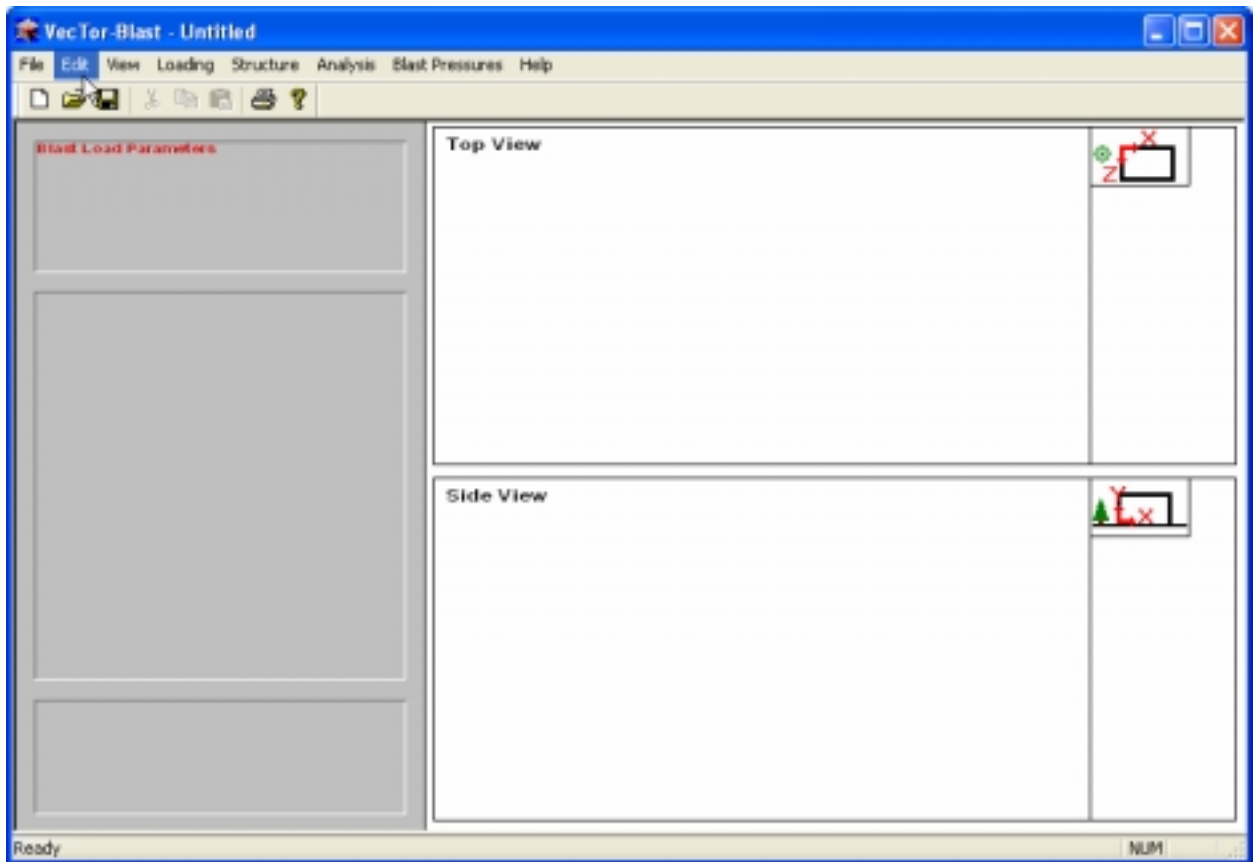

Figure 1 VecTor-Blast Interface.
Upon starting *VecTor-Blast*, an introduction window appears over the view window. The introduction window disappears if you click the mouse, hit a key, or wait a few seconds and the view window remains as shown in Figure 1. *VecTor-Blast* is a single document interface. The exact appearance will vary slightly depending on the operating system.
4. A summary of the entered information will appear in the grey Blast Load Parameters Box in the left hand corner of the main window (see Figure 1).
4. The plan and elevation view of the structure will appear in the Top View and Side View boxes along with the dimensions of the structure (see Figure 1).
4. The location of the explosion and the explosion itself will appear in the Top View and Side View boxes (see Figure 1).